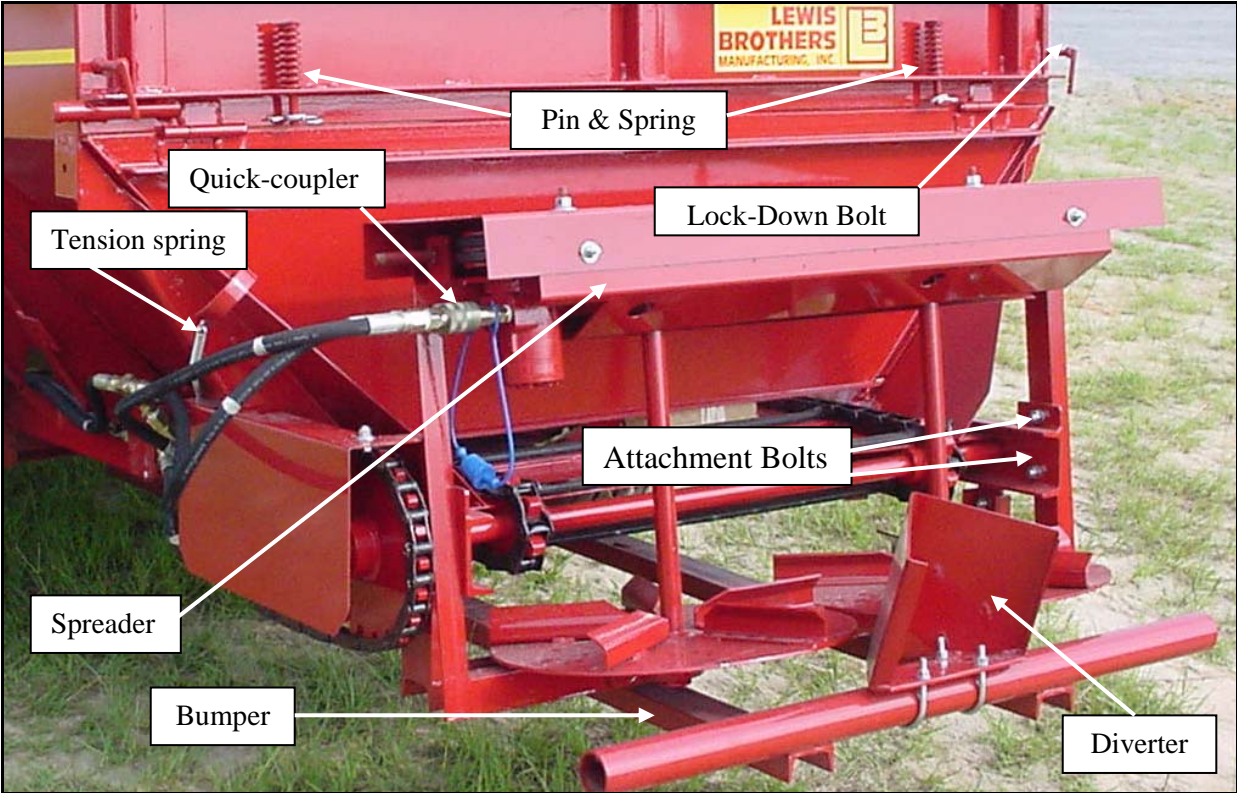
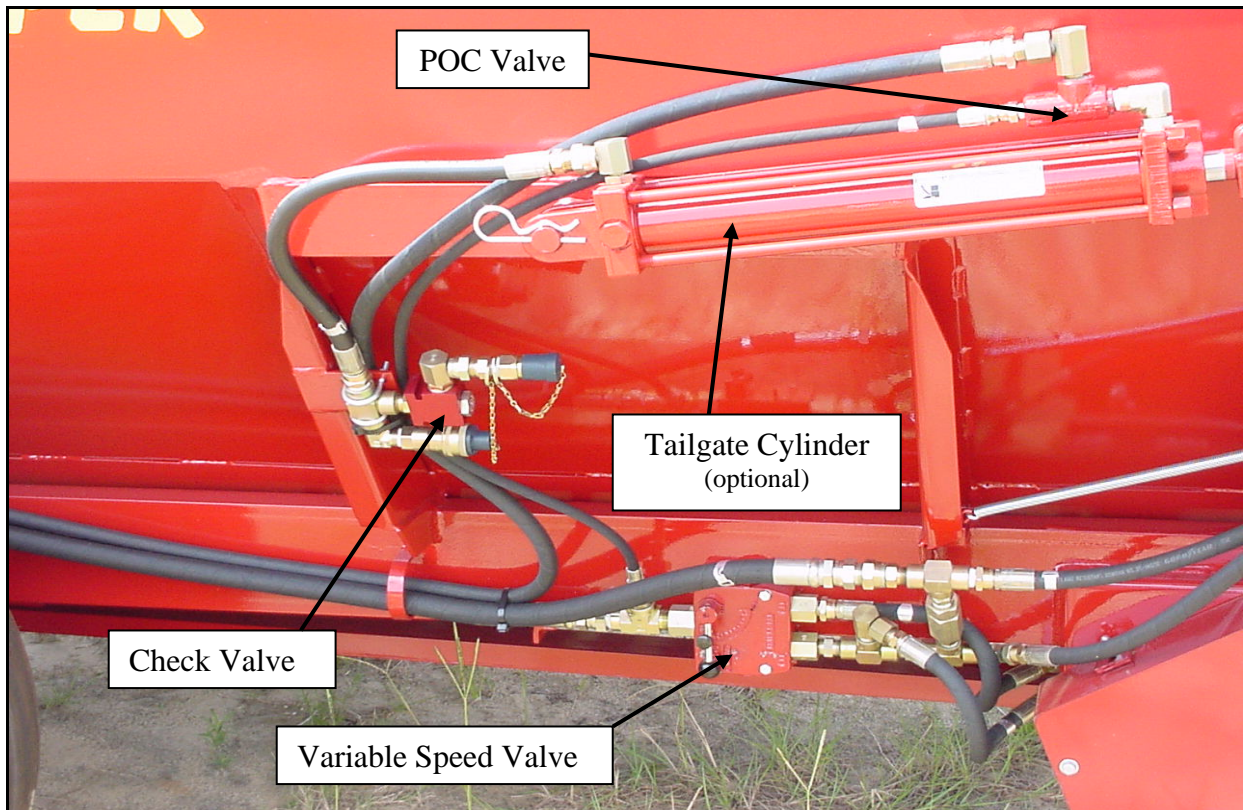

Figure 4
Figure 5
1. The spreader unit comes pre-assembled and is attached to the main frame of the Housekeeper using four 1/2x1-1/2 inch bolts.(see figure 4)
2. Locate the hydraulic 'quick-coupler' attached to the base end of the tailgate cylinder and uncouple the fittings from the coupling block (see fig. 5). Connect the two ends to the matching fittings on the hydraulic motor located on the spreader assembly (see figure 4).
The distribution pattern is influenced by the location of the diverter attached to the rear bumper. Best results are achieved when the diverter is positioned at approximately 45 degrees. (See Figure 4)